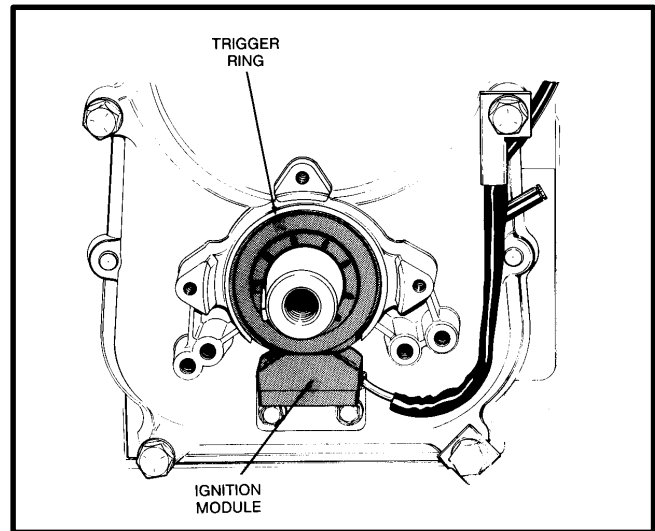

FIGURE 8-1. IGNITION MODULE AND TRIGGER RING
This engine is equipped with an electronic battery ignition system. Both spark plugs fire simultaneously, thus the need for a distributor is eliminated. The electronic ignition module is located on the engine gear cover below the flywheel. The module receives a timing signal from magnets within the trigger ring which rotates with the engine crankshaft (see Figure 8-1).
6. If the trigger ring (see Figure 8-1 on Page 8-1) was removed for some reason, take care to re-install it correctly on the crankshaft. The side of the ring with the part number on it must be readable when installed on the crankshaft before installing the flywheel (the number must face the flywheel). Do not push the ring up against the seal.